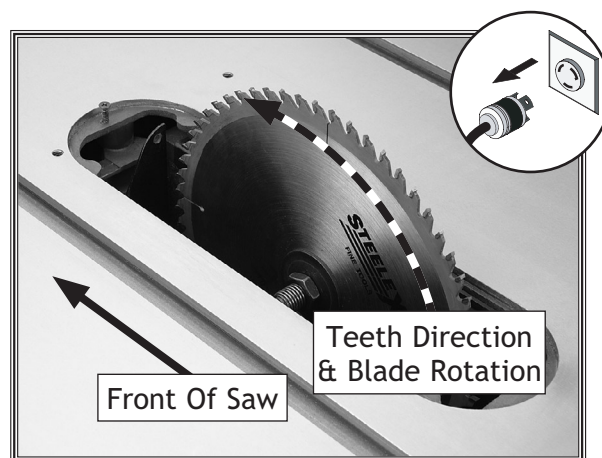

Figure 24. Correct blade direction.
4. Slide the new blade over the arbor with the teeth facing the front of the saw, as shown in **Figure 24**.